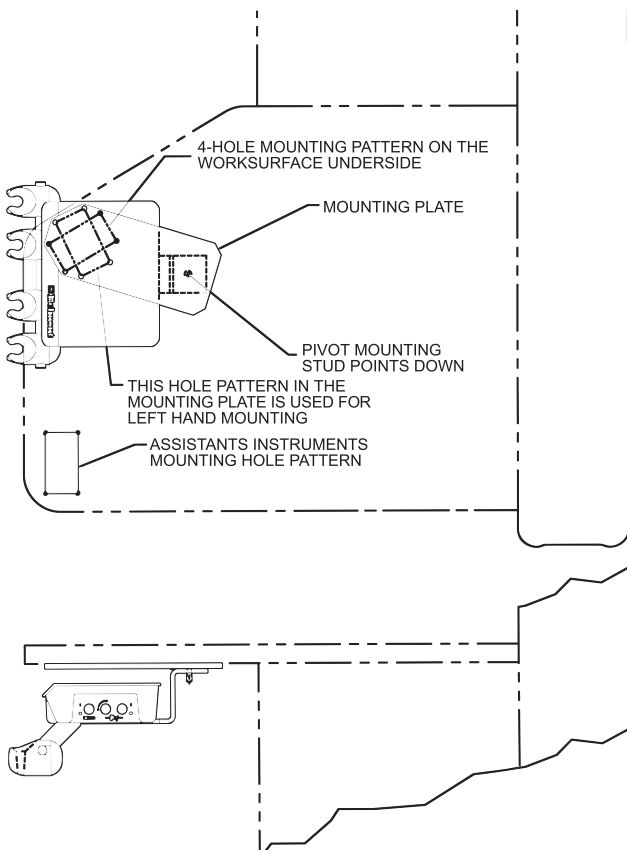

Figure 1. Installing the unit.
1. Fasten the unit swivel plate to the underside of the sliding work surface using the four 10-24 machine screws provided. *See Figure 1.*